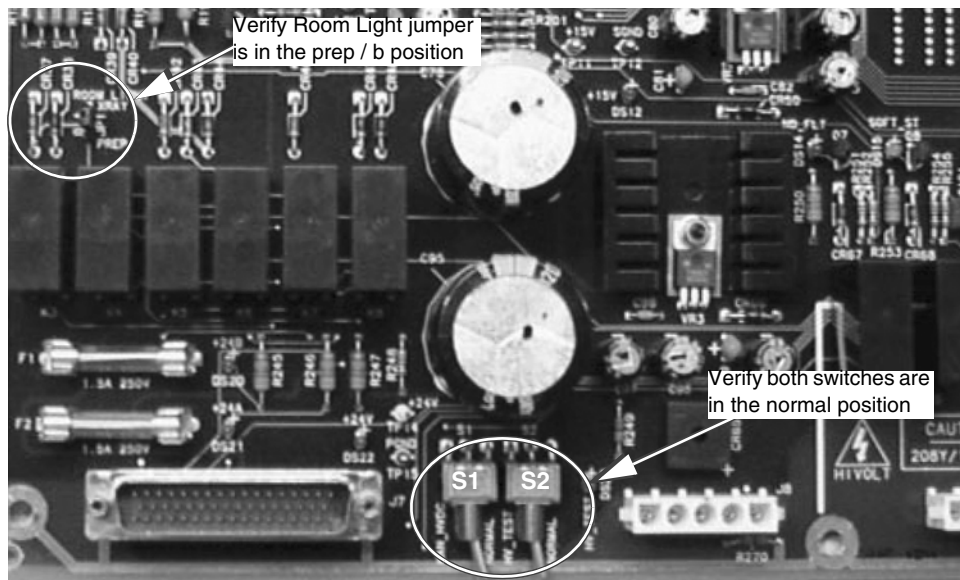

Figure 5-2 PDU Control Board (A6 Panel)
- 2.) Set the Room Light jumper (JP1) to meet hospital requirements (refer to Figure 5-2).